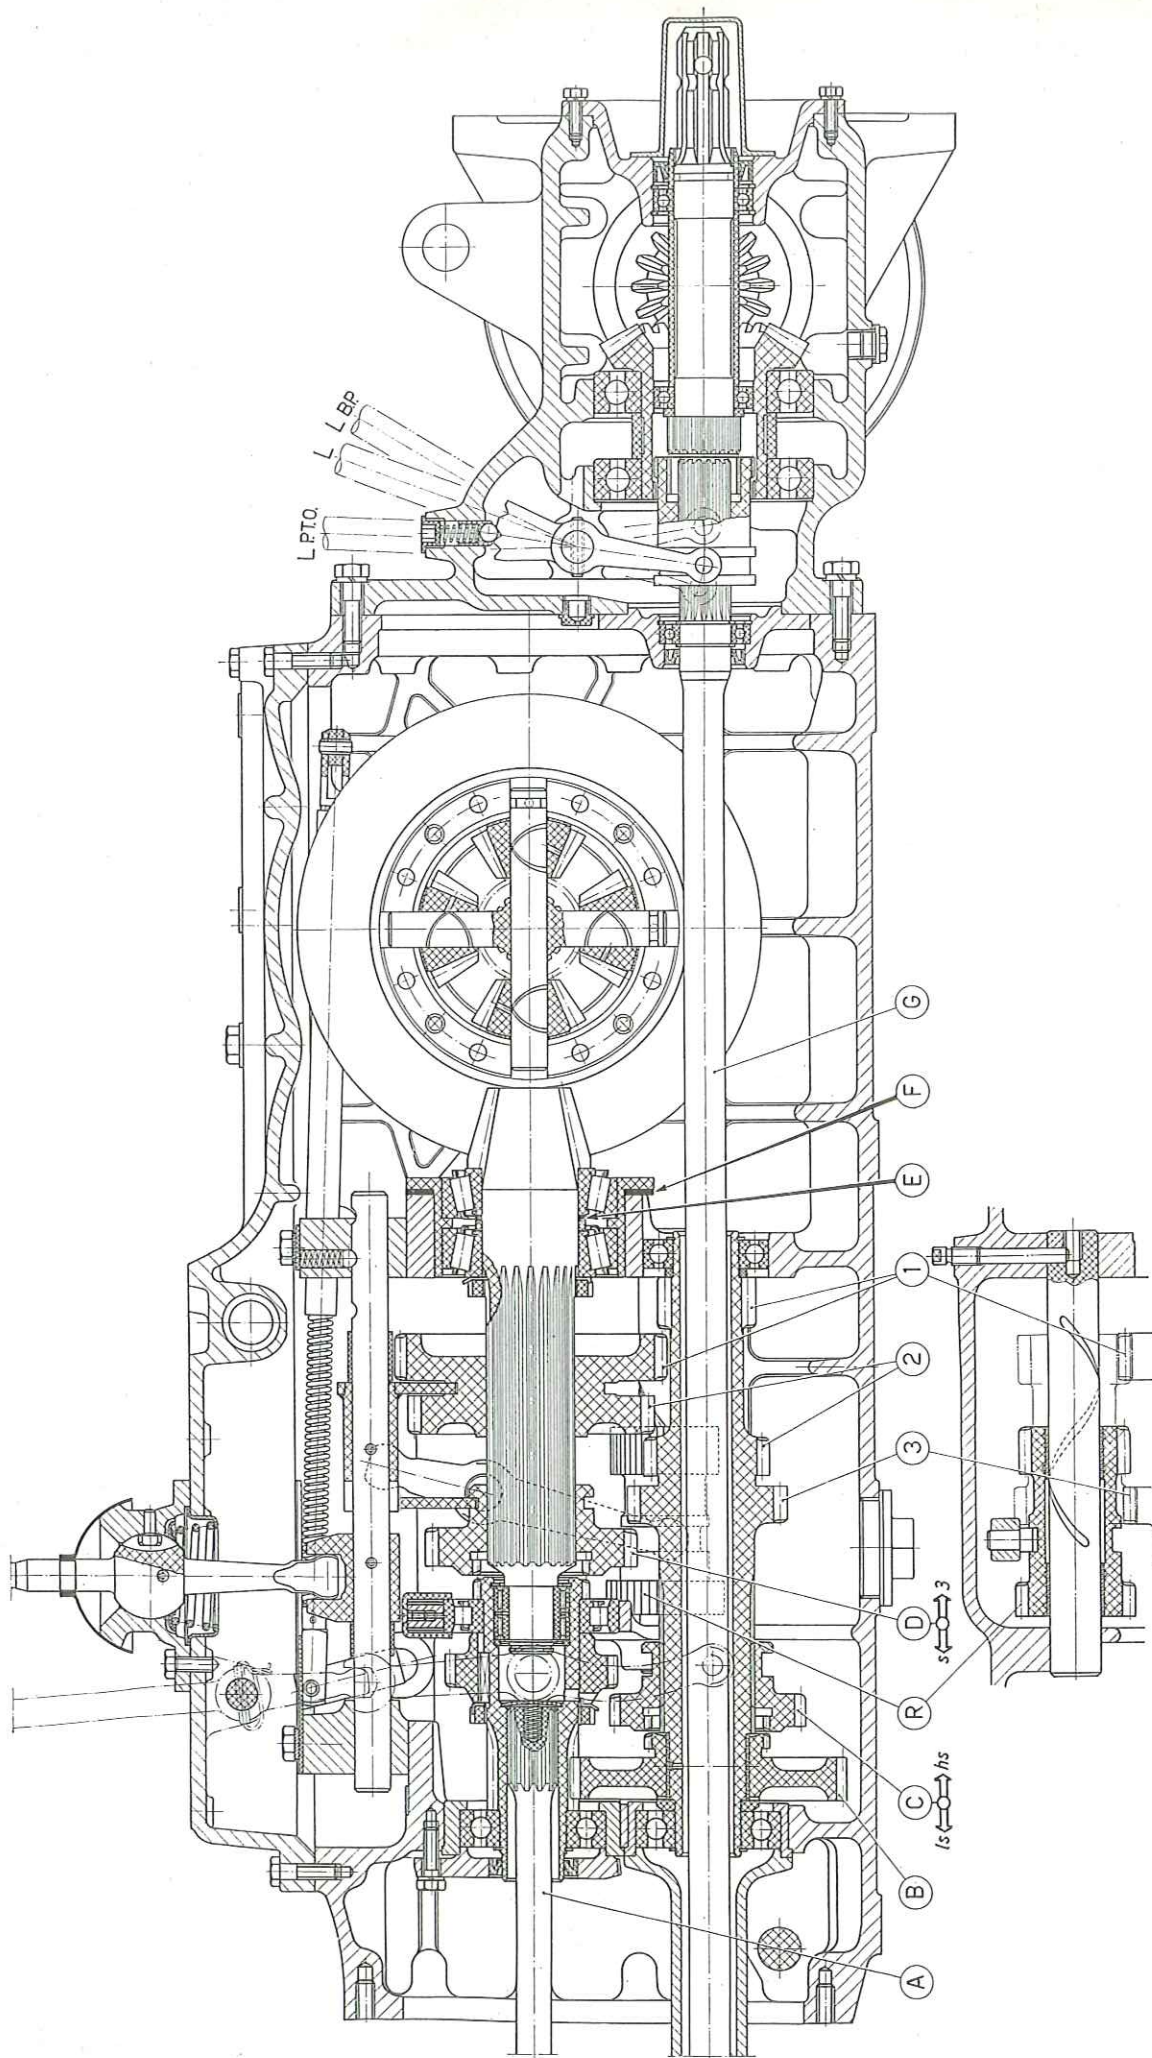

Fig. 41. - Longitudinal section of gearbox, bevel pinion and P.T.-O. unit.
Sectional views of the gearbox and rear transmission are shown in fig. 41 and fig. 43.
- place a suitable number of adjusting shims (F, fig. 41) in between the bevel pinion bearing sleeve and housing in order to establish between the pinion front end and the differential housing a clearance equal to:
Mount on the bevel pinion shaft the inner race with rollers of the bearing resting against the pinion shoulder, then the spacer, a pack of adjusting shims for a total nominal thickness of 0.110 in. (E, fig. 41), the bearing housing with the outer races and finally the inner race of the second roller bearing.
Mount the bevel pinion shaft with its gear clusters in the gearbox and after finding the shim pack thickness (F, fig. 41) through the method already described in the section concerning pinion face marking, lock the bearing housing using the proper screws.